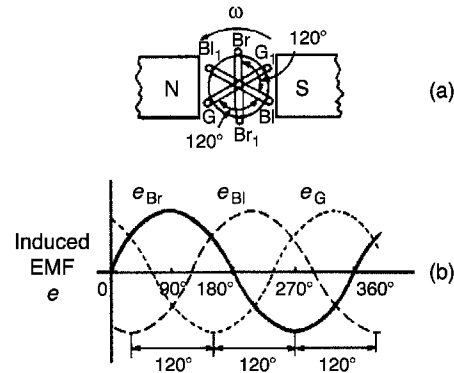

Figure 23.2
A **three-phase supply** is generated when three coils are placed 120° apart and the whole rotated in a uniform magnetic field as shown in Fig. 23.2(a). The result is three independent supplies of equal voltages which are each displaced by 120° from each other, as shown in Fig. 23.2(b).
- (i) The convention adopted to identify each of the phase voltages is: Br - brown, Bl - black and G - grey, as shown in Fig. 23.2. (note that the former colours were red, yellow and blue respectively).
If the three-phase windings shown in Fig. 23.2 are kept independent then six wires are needed to connect a supply source (such as a generator) to a load (such as motor). To reduce the number of wires it is usual to interconnect the three phases. There are two ways in which this can be done, these being: